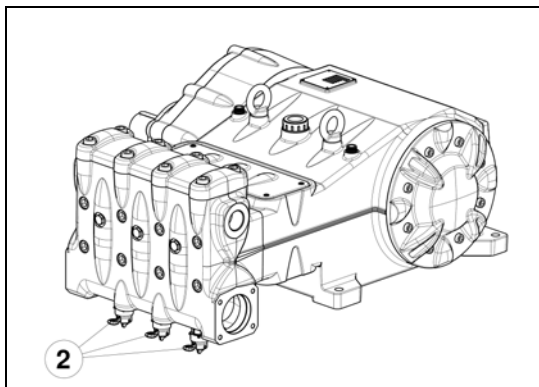
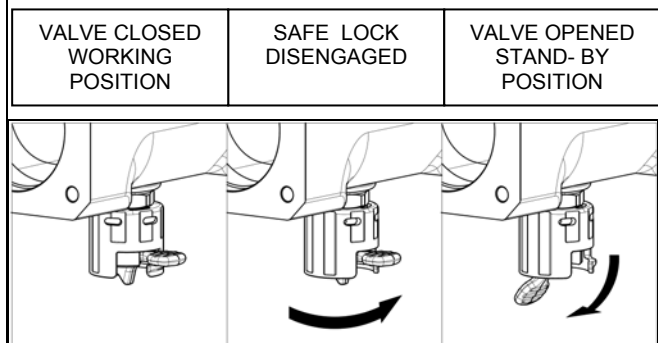

fig. 9
fig. 10
**In case the pump has not run for a long period of time, recover the correct operation of the suction valves by opening the three valve-lifting devices (see position 2 fig.9). Be sure to reclose the valves before pump start-up. See fig. 10 for the valve positions.**